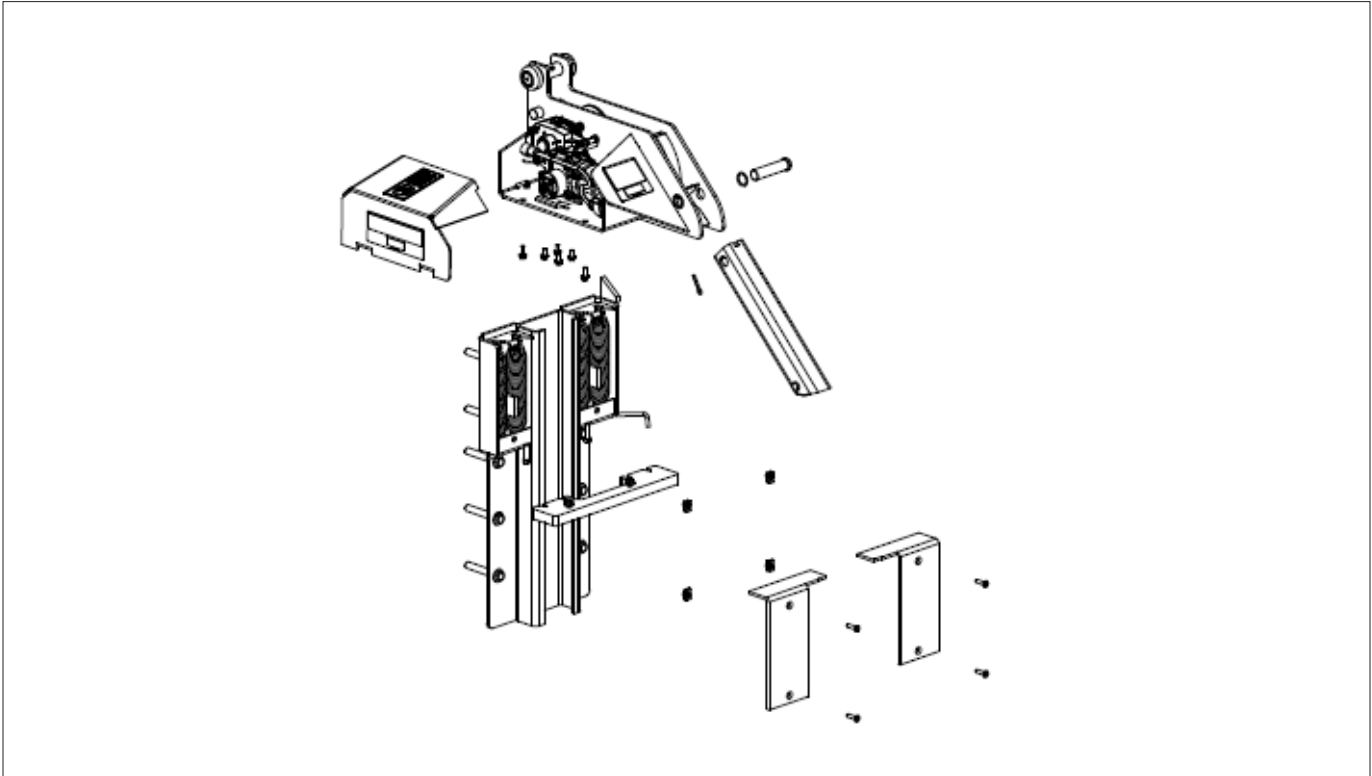

FIGURE 6—INSTALL CARRIAGE ASSEMBLY INTO ROLLER TRACK
- Attach four (4) springs to lower spring bar.
- Slide carriage assembly into roller track. Refer to Figure 6.